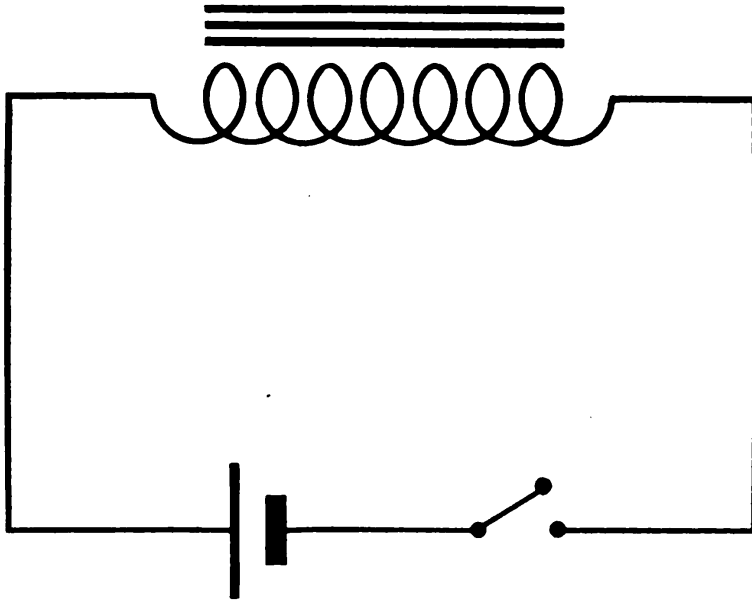
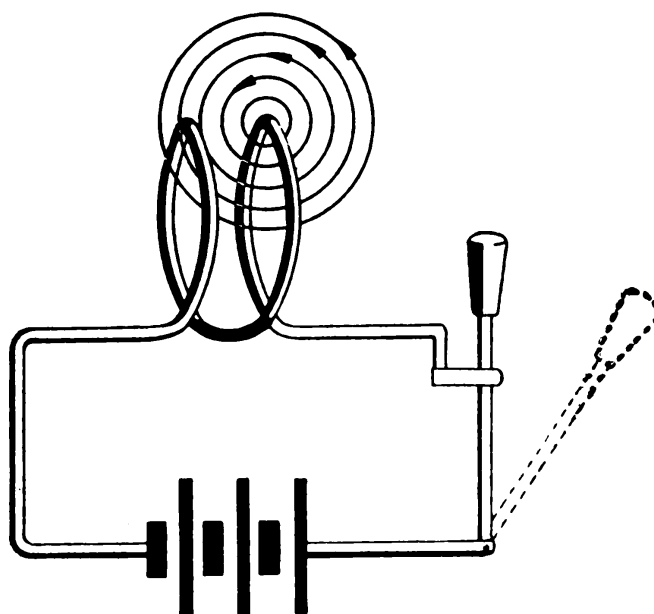
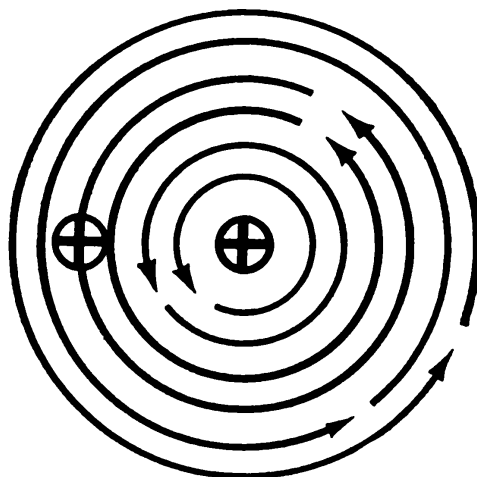

Figure 115.—Self induction circuits.
Figure 116.—Self induction in one turn.
Figure 117.—Self induction—cross-section.
There are only three items required to generate an induced voltage—(1) a conductor, (2) a magnetic field, (3) motion between the conductor and the field. These three items give you **LINES OF FORCE CUT BY A CONDUCTOR**. Look at figure 115—are these three items present in this circuit?
Figure 116 shows an enlargement of only two turns of the coil in figure 115. Flux is pictured blossoming out, from one of the turns. Notice how these lines are cut by the next turn. Now, applying the generator hand rule, determine the direction of the induced voltage. It's easier to use the rule on a cross-section of the coil like figure 117. Flux direction is down (first finger). Motion is to the RIGHT (thumb). (ATTENTION—the flux is moving across the conductor to the LEFT—the effect is AS THOUGH THE CONDUCTOR were moving